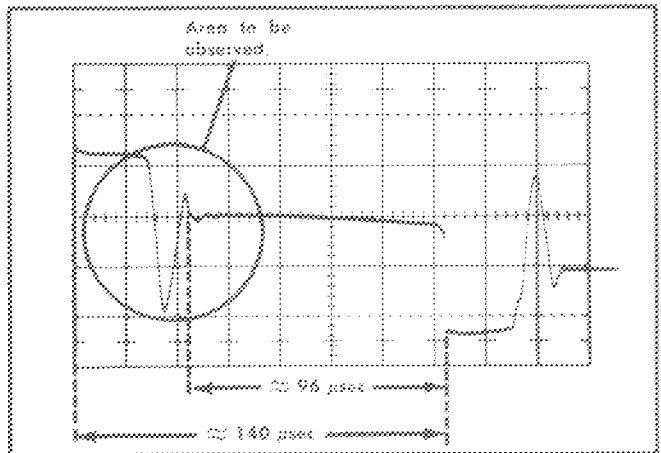

Fig. 6-5. Waveform obtained when OSC FREQ control is correctly adjusted. Oscilloscope controls for waveform were: Time/CM 20 μ Sec, Volts/CM 20.
- e. Adjust OSC FREQ control to obtain a waveform similar to the waveform show in Fig. 6-5.